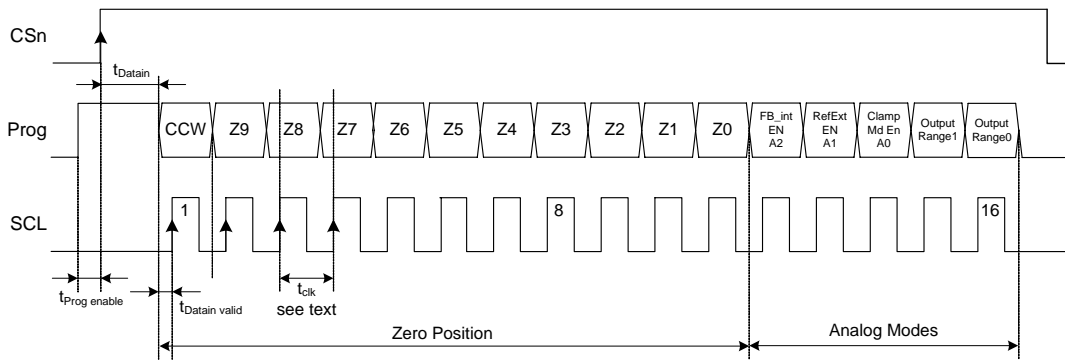
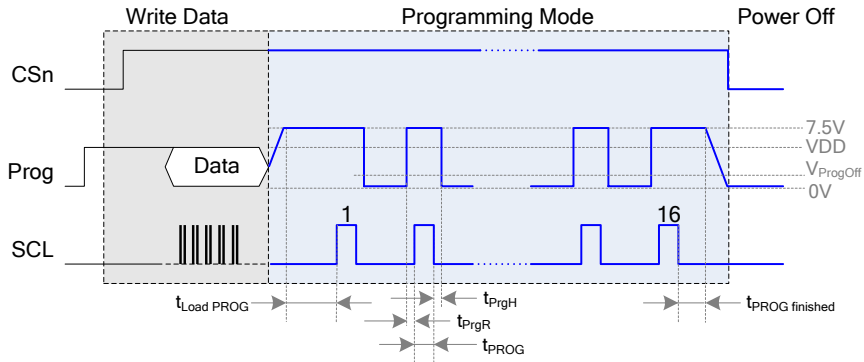
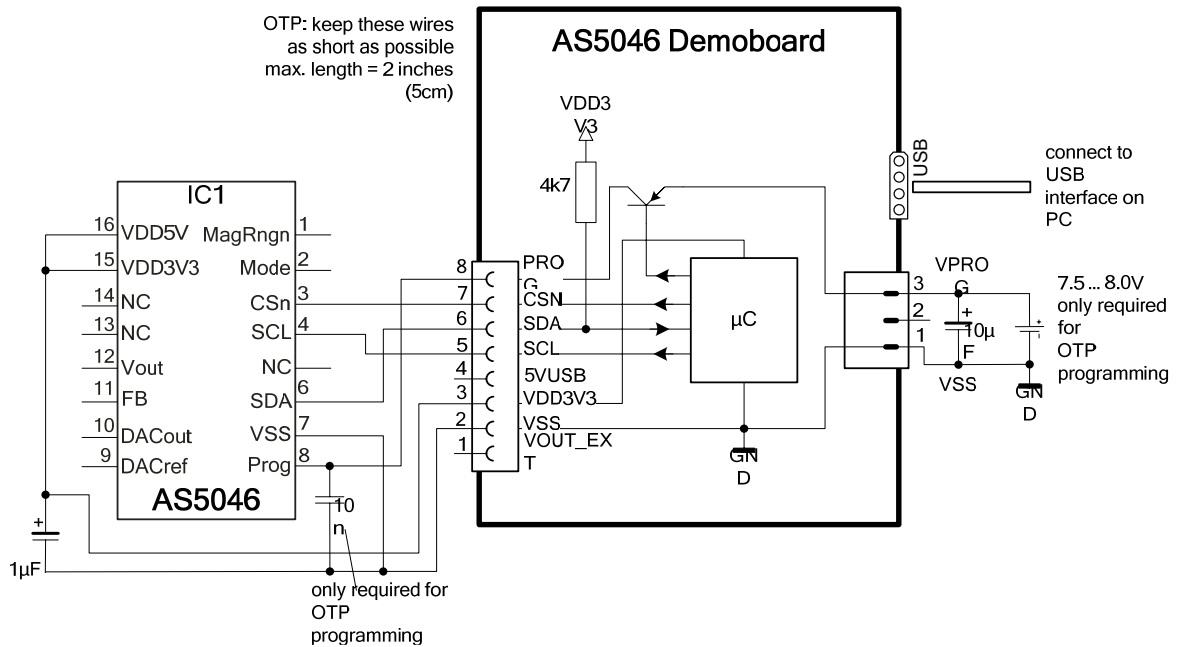

Figure 13: Programming Access – OTP Write Cycle (section of Figure 14)
Figure 14: Complete OTP programming sequence
Figure 15: OTP programming hardware connection of AS5046 (shown with AS5046 demoboard)
- Changing the address also changes the analog mode, as these OTP bits share the same position. (see Figure 13)
After power-on, programming the AS5046 is enabled with the rising edge of CSn and Prog = logic high. 16 bit configuration data must be serially shifted into the OTP register via the Prog-pin. The first “CCW” bit is followed by the zero position data (MSB first) and the Analog Output Mode setting as shown in Table 9. Data must be valid at the rising edge of CLK (see Figure 13). Following this sequence, the voltage at pin Prog must be raised to the programming voltage VPROG (see Figure 14). 16 CLK pulses (tPROG) must be applied to program the fuses. To exit the programming mode, the chip must be reset by a power-on-reset. The programmed data is available after the next power-up.
Note: During the programming process, the transitions in the programming current may cause high voltage spikes generated by the inductance of the connection cable. To avoid these spikes and possible damage to the IC, the connection wires, especially the signals PROG and VSS must be kept as short as possible. The maximum wire length between the VPROG switching transistor and pin PROG (Figure 15) should not exceed 50mm (2 inches).
is not required for normal operation. The clock timing tclk must be selected at a proper rate to ensure that the signal PROG is stable at the rising edge of CLK (see Figure 13). Additionally, the programming supply voltage should be buffered with a 10µF capacitor mounted close to the switching transistor. This capacitor aids in providing peak currents during programming. The specified programming voltage at pin PROG is 7.3 – 7.5V (see section 5.7). To compensate for the voltage drop across the VPROG switching transistor, the applied programming voltage may be set slightly higher (7.5 - 8.0V, see Figure 15).
This procedure is essentially a “Write Data” sequence (see Figure 13) without a subsequent OTP programming cycle.
During analog readback, the capacitor at pin PROG (see Figure 15) should be removed to allow a fast readout rate.